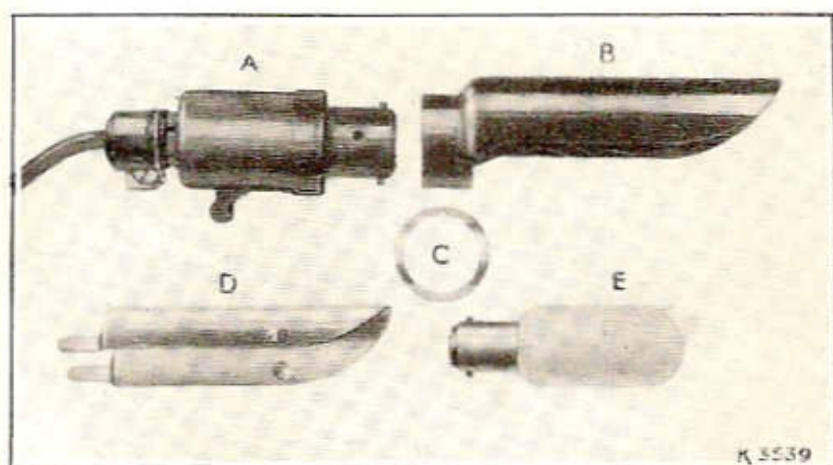

Fig. 13.
The Singerlight is sent from the factory in five parts, as shown in Fig. 13. These are:—
Hold the Singerlight body in the left hand, with its two pins (A) in the position shown above, and with the right hand place the spring washer (C, Fig. 13) over these pins and against the shoulder (D). Then, holding the shield (B, Fig. 13), cupped side towards you, as illustrated, pass the two grooves (B) in its collar over the two pins (A), and pressing the shield hard against the washer, give it a quarter turn over towards you so that the name "Singer" is on top and the switch (C) is underneath. Next, holding the Singerlight body with shield, in the left hand, insert the two prongs of the reflector (D, Fig. 13) into the two grooves in the collar of the shield and press the reflector back as far as possible. Now, holding the bulb at its round end, between the thumb and the forefinger of the right hand, insert it by passing its two pins into the two small slots in the socket of the Singerlight body and, pressing the bulb firmly into the socket, give it a slight turn from you so that it is securely held in position.